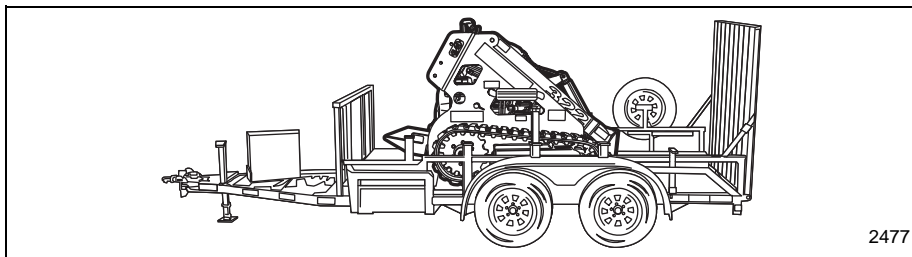

Figure 3–13 Transport Position on Trailer
NOTICE: The longer the attachment, like the trencher, the more the attachment needs to either be tilted 'or raised. It is recommended to back the machine onto the transport trailer and position the machine so that the heaviest weight (center of balance) is towards the front (hitch end) of the trailer. See Figure 3–13.
5. Secure the unit to the transport vehicle with DOT (Department of Transportation) approved chains, binders (Items 1 and 2, Figure 3–14), and DOT guidelines. Make sure to use the appropriate tie-down locations (Items 3 and 4, Figure 3–14) on the machine and trailer.